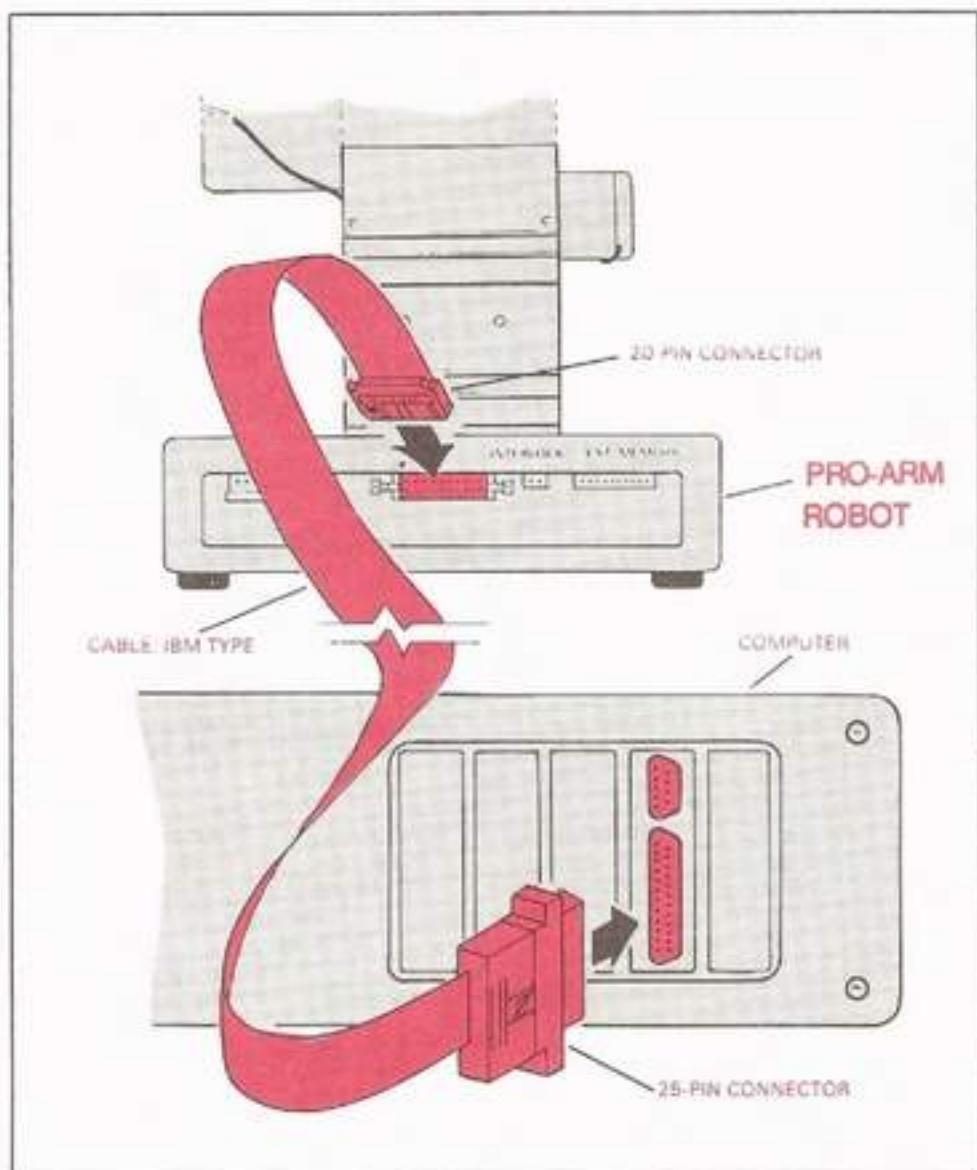
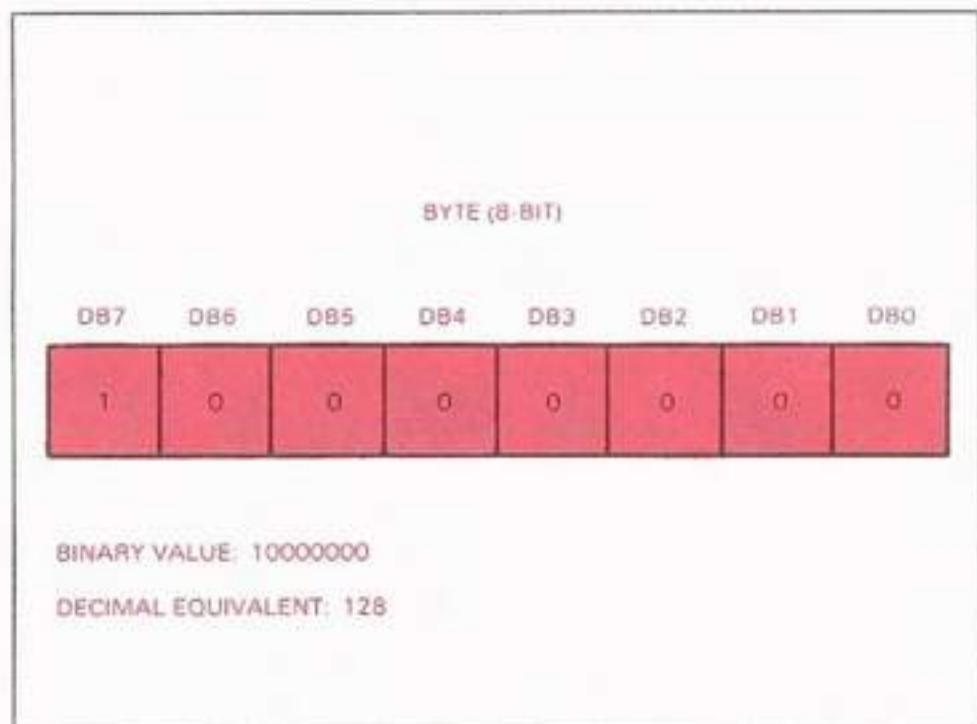

Fig. 69: The IBM-type Interface Cable
Fig. 70: One Byte
The computer's parallel port sends data, byte by byte, to the Pro-Arm's parallel port by way of the parallel interface cable. Refer to Fig. 69. You installed this cable during Lab Exploration 3, "Hardware." One byte is composed of 8-bits, as shown in Fig. 70. Notice that the byte shown in Fig. 70 is made up of only "zeros" or "ones." This is because the binary numbering system only uses those two digits. Each "one" is worth twice the value of the "one" to its immediate right. That means that the value shown in the Fig. 70 represents the number 128 (**DB7 or Data Bit 7**) in normal decimal notation.
In order to figure out the decimal equivalent of an 8-bit binary value (**byte**), you must add the individual values of any position that has a "**one**" in it. "**Zeros**" receive no value. The value of the position immediately to the right of DB7 (**position DB6**) is 64. If that position had a one (1) in it also, the value of the byte in Fig. 70 would be 192. If we follow this logic to its inevitable conclusion, the highest numeric value that could be represented with 8 bits of data would be 255. In order to count higher we would need more bits, and a bigger data bus. Larger systems use both. If we needed a bigger number on the Z80's data bus, we could send the number in two or more separate bytes, end to end, with the rightmost digits (**lower byte**) first.